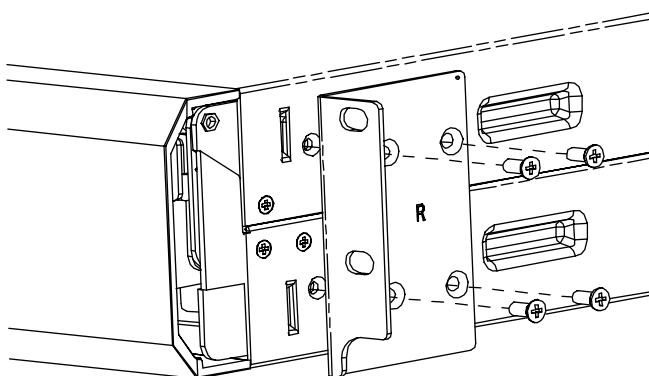

Fig. 4: Fastening the mounting bracket (right hand side)
6. Now fasten the two brackets that come with the device to the side of the UPS and, if using, an external battery unit according to Fig. 4. Make sure to put the bracket marked "L" on the left and the one marked "R" on the right hand side.